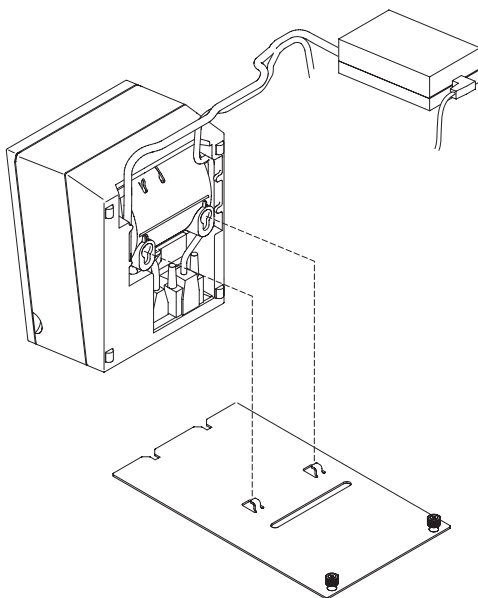

Figure 102. Detaching the 4610 SureMark TF6 printer mounting plate for the non-keyboard integration tray
- b. For the 4610 SureMark TF6 or TF7 printer on a **non-keyboard integration tray**, remove the mounting plate from the printer. See Figure 102 for details.